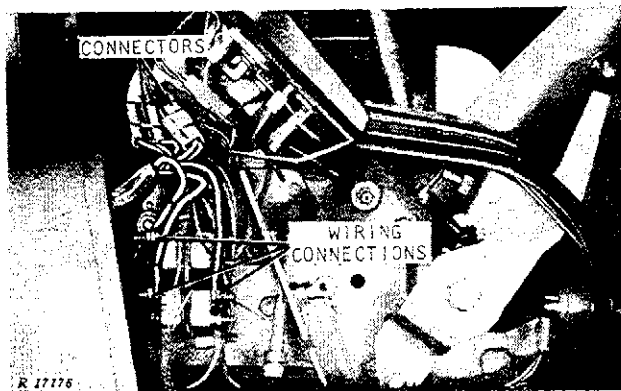

Fig. 1-Cab Wiring Connections
1. Disconnect cab wiring from connectors and circuit breakers (Fig. 1). Remove wiring harness from clamps and lay wiring inside cab. Disconnect wiring from dimmer switch.